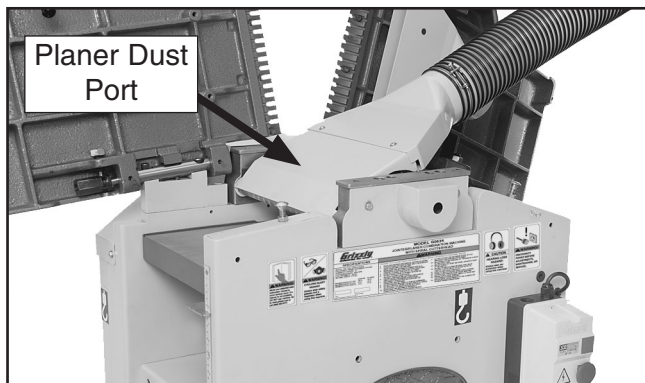

Figure 26. Planer dust port setup.
- Swing the planer dust port clockwise over the cutterhead as shown in **Figure 26**.